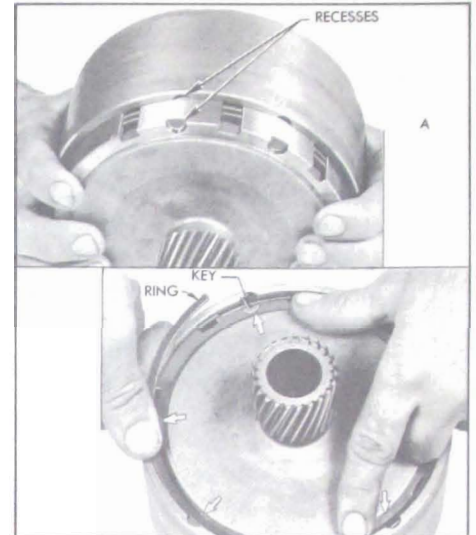

Figure 5-93—Installing Drum Over the Reaction Flange Gear
6. Place the drum and clutch piston assembly over the reaction gear flange so that the driving key recesses in drum and flange are approximately aligned. See Figure 5-93, view A. Press the drum evenly into place over the reaction gear flange.